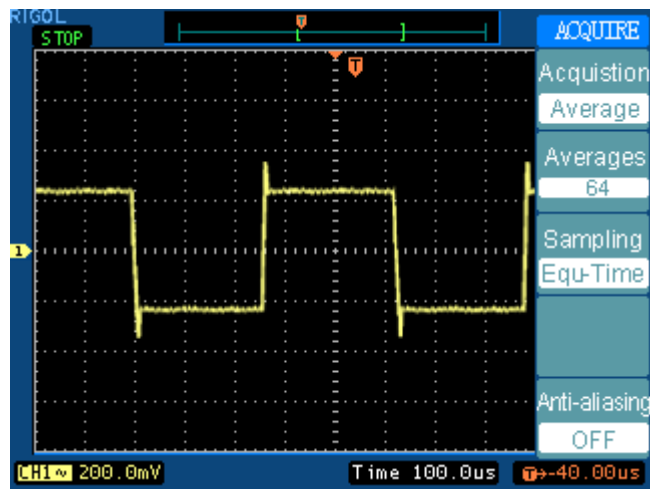

Figure 3-3
- Toggle the **Averages** soft button to select the number of averages that eliminates the noise best from the displayed waveform. The higher the number of averages is, the more noise that is removed from the display. However, the higher number of averages, the slower the displayed waveform response to waveform changes. You need to choose between how quickly the waveform responds to changes and how much noise there is on the signal. (See Figure 3-3)